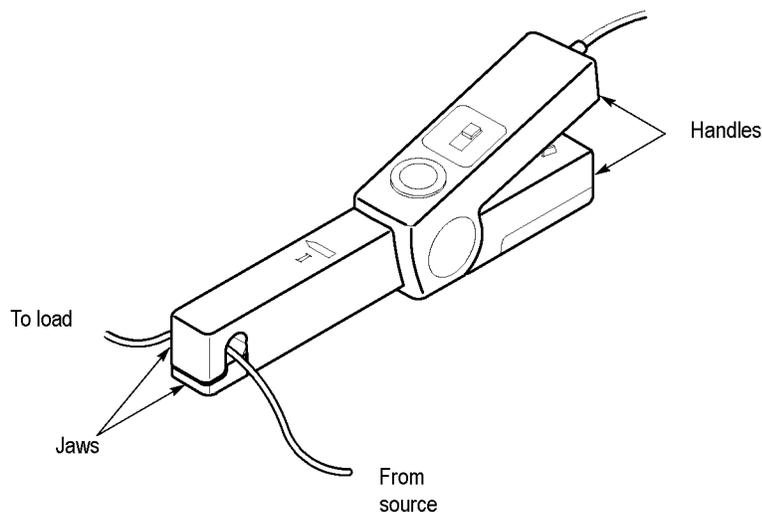

Figure 2: Connecting the A622 current probe
4. Connect the probe to the circuit by opening the jaws and clamping around the conductor. See Figure 2 on page 9.